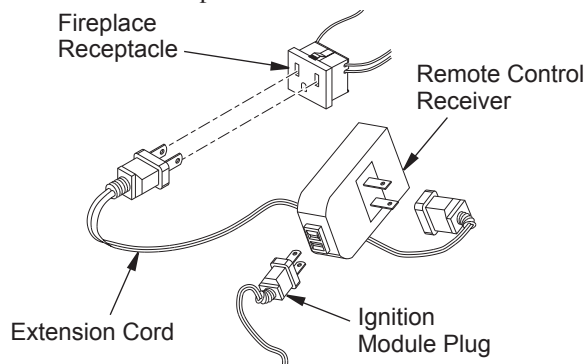

Figure 40 - Installing the WRC Remote Receiver
2. The WRC model receiver does not require a battery. The receiver can be installed by first plugging the short extension cord into the fireplace receptacle. Then plug the receiver unit into the extension cord. Finally plug the ignition module plug into the receiver unit (see Figure 40).